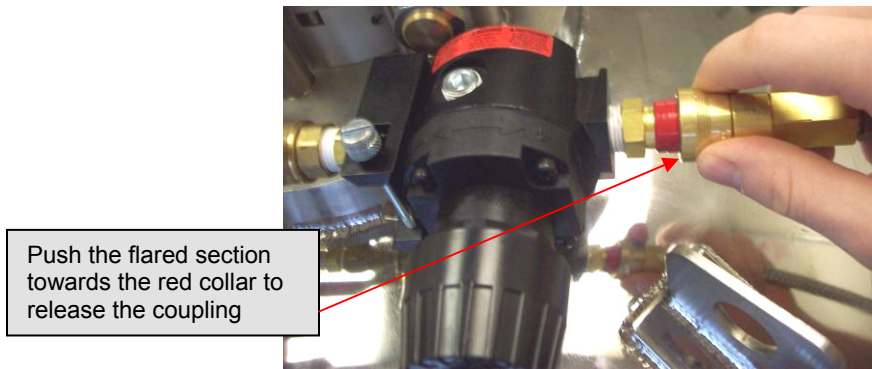

Figure 7-15: helium supply quick connect coupling
- Push the flared section of the female coupling towards the red collar on the male coupling to unlock and separate them. **See Figure 7-15.**